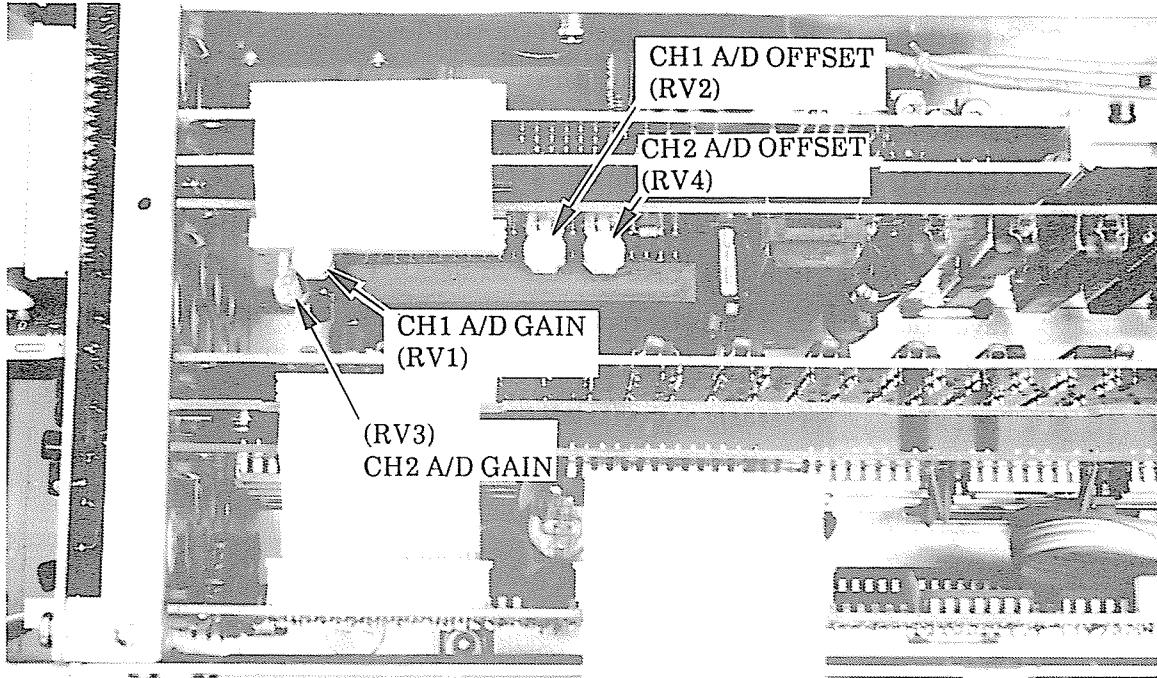

Fig. 4-40 Adjustment positions of CH1 GAIN (RV1) and CH1 A/D OFFSET (RV2)
- (1) Perform initial setting of the instrument in accordance with Table 4-3.
- (2) Apply a 50mVp-p standard amplitude generator output to the CH1 input. (If the sweep speed is not suitable, select another sweep speed.)
- (3) Confirm that the amplitude displayed on the screen is within 5 DIV $\pm$ 0.1 DIV. (If it is not, return to the real time system adjustment and re-adjust.)
- (4) Set "STORAGE/REAL" to "STORAGE".
- (5) Confirm that the amplitude is within 5 DIV $\pm$ 0.1 DIV. If it is not, adjust CH1 A/D GAIN (RV1) on board A16 shown in Fig.4-40.
- (2) Set the input coupling of CH1 to "GND".
- (3) Rotate "CH1 POSITION" knob until the trace of CH1 is at the center of the CRT screen.
- (4) Set "STORAGE/REAL" to "STORAGE", and confirm that the trace shift is within  $\pm$ 0.1 DIV. If it is not, adjust CH1 A/D OFFSET (RV2) on board A16 shown in Fig. 4-40.
- (2) Set "VERT MODE" to "CH2".
- (3) Apply a 50mVp-p standard amplitude generator output to the CH2 input. (If the sweep speed is not suitable, select another sweep speed.)
- (4) Confirm that the amplitude in the vertical direction of the CRT screen is within 5 DIV  $\pm$  0.1 DIV. (If it is not, return to the real time system adjustment and re-adjust the system.)
- (5) Set "STORAGE/REAL" to "STORAGE".
- (6) Confirm that the amplitude in the vertical direction of the CRT screen is within 5 DIV  $\pm$  0.1 DIV. If it is not, adjust CH1 A/D GAIN (RV3) on board A16 shown in Fig. 4-40.
- (3) Set the input coupling of CH2 to "GND".
- (4) Rotate "CH2 POSITION" knob until the trace of CH2 is at the center of the CRT screen.
- (5) Set "STORAGE/REAL" to "STORAGE", and confirm that the trace shift is within  $\pm$  0.1DIV. If it is not, adjust CH2 A/D OFFSET (RV4) on board A16 shown in Fig. 4-40.